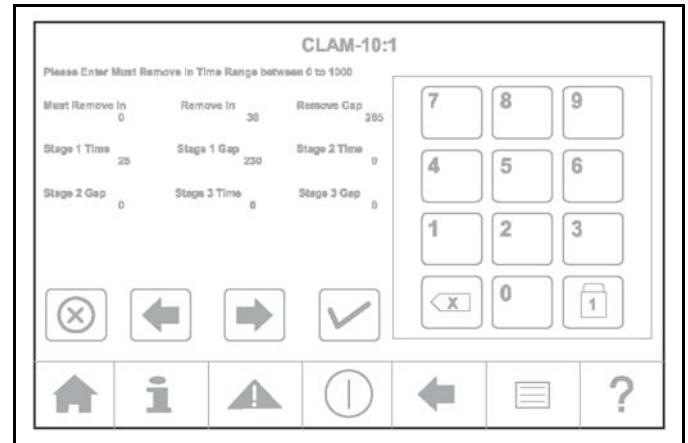

Figure-70
- **Must Remove In**—The time in which the product should be removed for the grill. There is an associated alarm with this. See Figure-70.